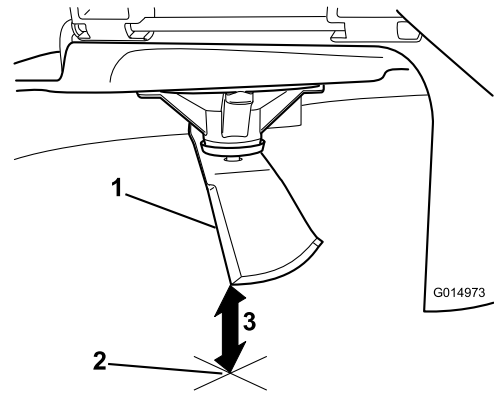

**Figure 52**
3. Measure from the tip of the blade to the flat surface (Figure 52).